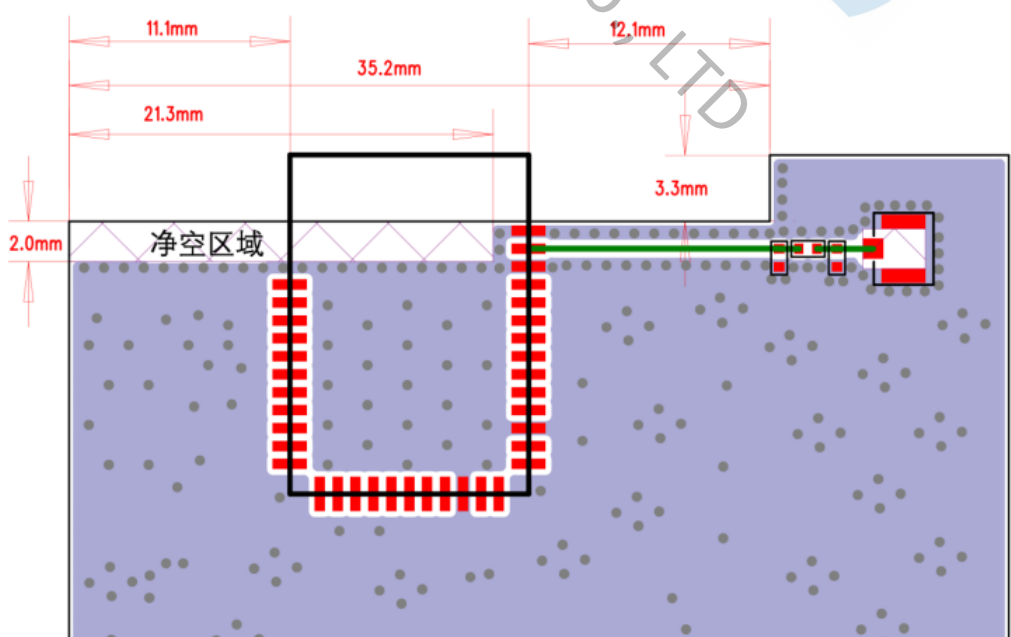

Figure 9-2-3: Module Layout - Baseboard TOP Layer
**Recommendation 2:** Similar to Recommendation 1, place the module at the edge of the baseboard (**the customer's baseboard must be hollowed out**). The TOP layer layout is shown in Figure 9-2-3: